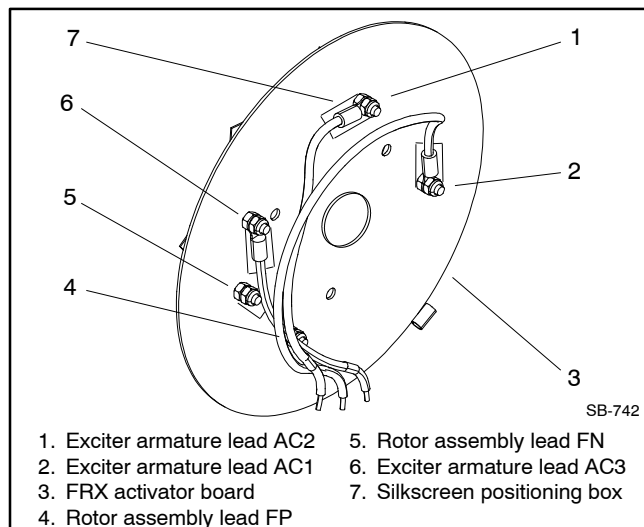
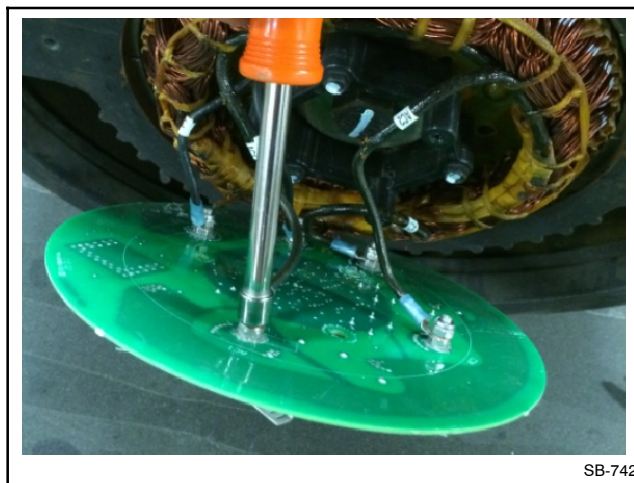

Figure 7 FRX Activator Board
Figure 8 Removing Leads from the FRX Activator Board
3.5 **For Units Before Alternator Serial Number 96779:** Access the back of the FRX activator board and disconnect the exciter armature leads (AC1, AC2, and AC3) and rotor assembly leads (F1 and F2) by removing the 5 elastic stop nuts. Note the lead terminals and their positioning on the FRX activator board silkscreen. See Figure 7 and Figure 8.